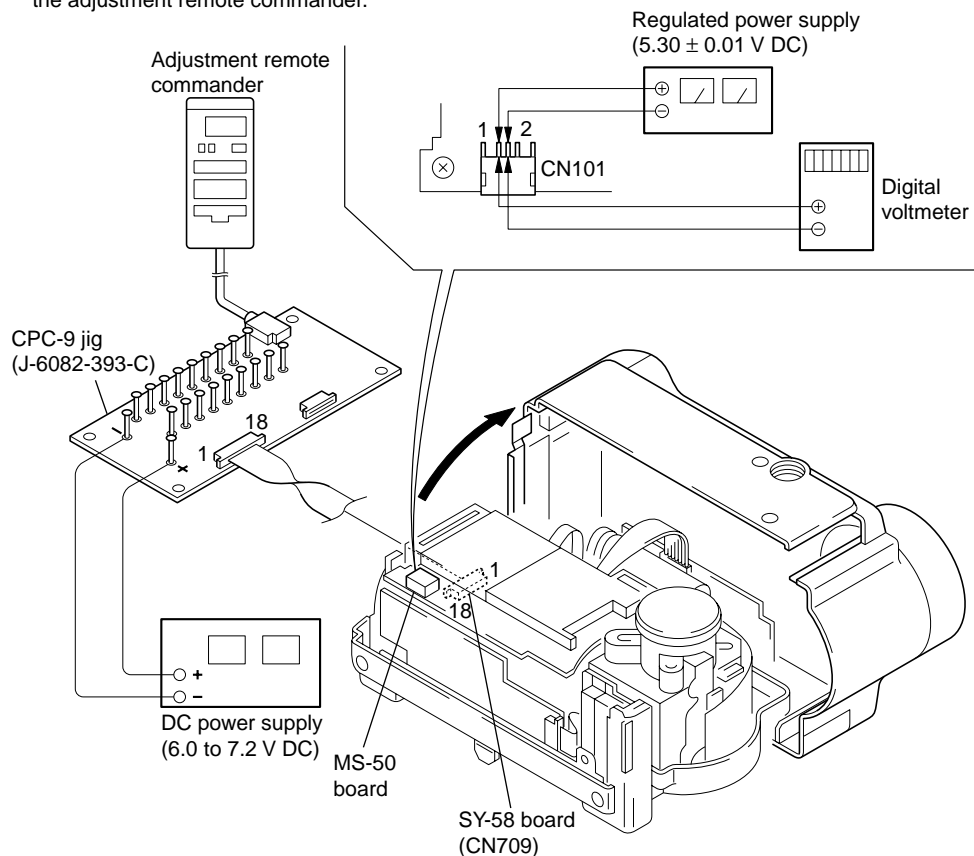

Fig. 5-1-26
- 1) Connect the regulated power supply and the digital voltmeter to the battery terminal as shown in Fig. 5-1-26.